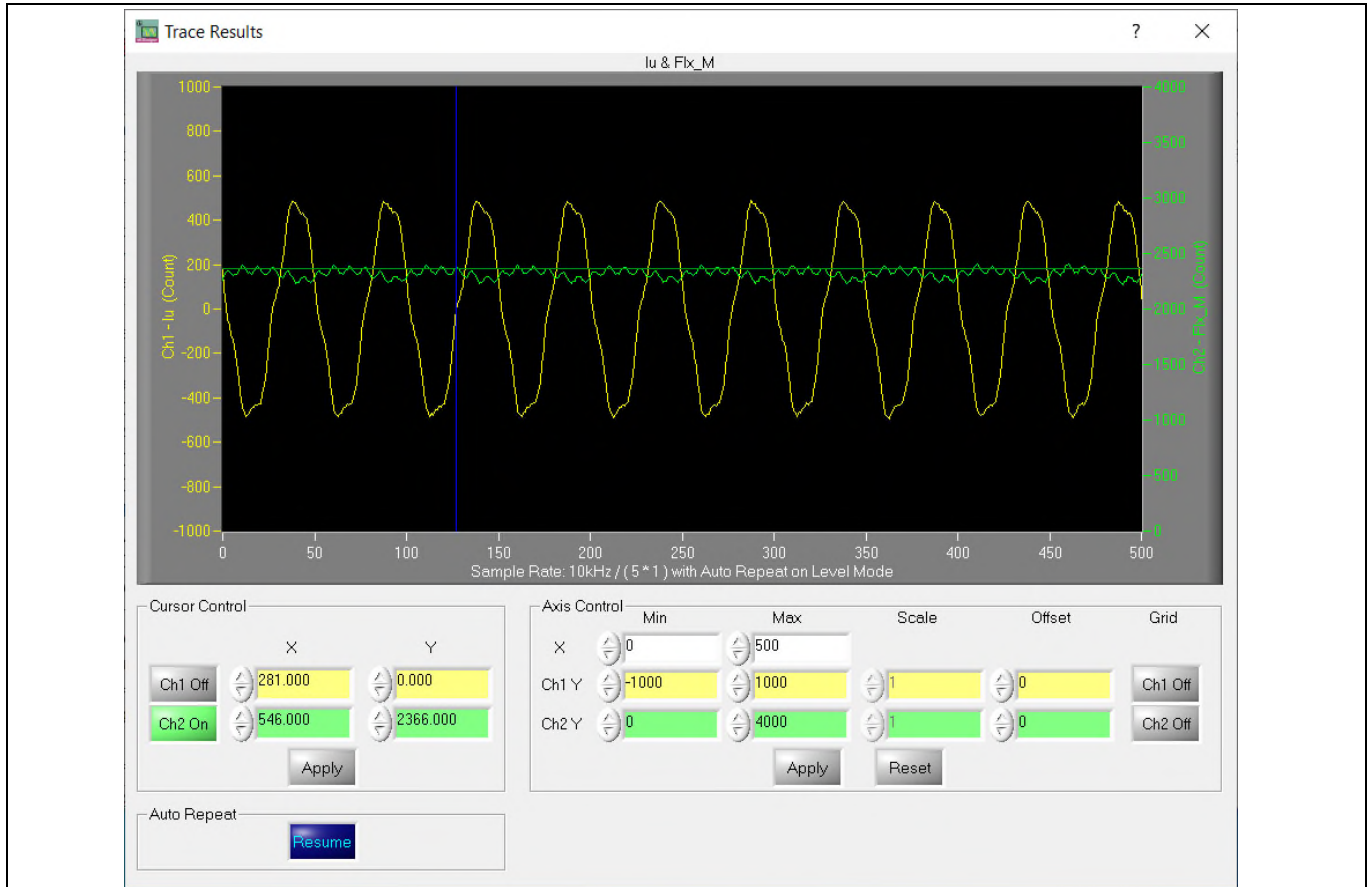

Figure 10 Trace waveform for Iu & Flx-M at 50% speed
13. Set target speed to about 50% of MAX speed, start “lu & Flx_M” trace with “Auto Repeat On Level,” see Figure 10. Flx_M is better within the range of 2000~2500 (rated value is 2048), and must be steady and DC-like.